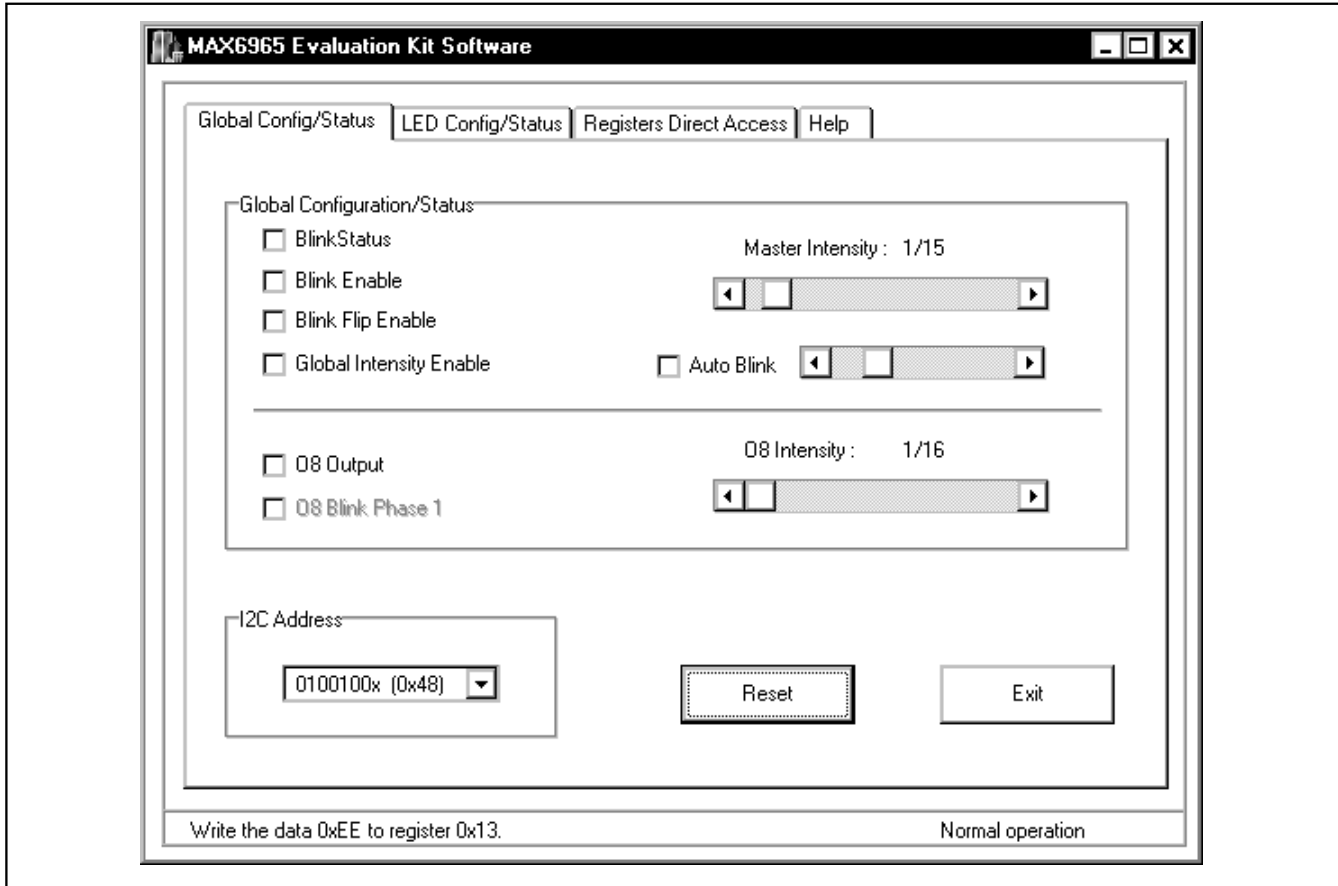

Figure 1. MAX6965 Evaluation Software Main Window (Global Config/Status Tab)
- 11) Start the MAX6965 EV kit software by opening its icon in the **Start** menu. The GUI main window appears as shown in Figure 1.
To start the MAX6965 EV kit software, double-click the MAX6965 EV kit icon that was created during installation. The GUI main window appears as shown in Figure 1. Wait approximately two seconds while the MAX6965 EV kit software connects to the CMAXQUSB board.
The **Global Config/Status** tab shown in Figure 1 contains the **Global Configuration/Status** group box, the **I2C Address** pulldown menu, as well as **Reset** and **Exit** buttons.